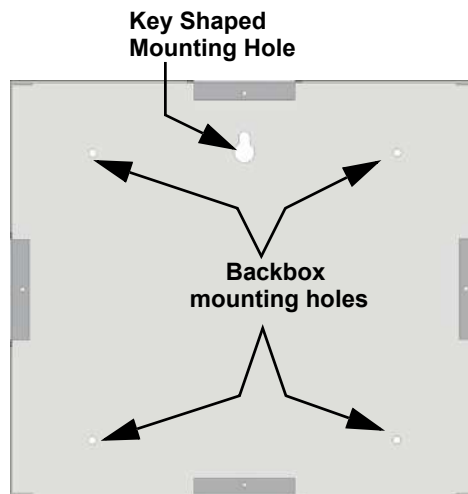

Figure 4.28 Backbox Surface Mount Holes
2. To properly mount the backbox, insert a single screw into the key shaped mounting hole. Do not tighten all the way. See Figure 4.28.